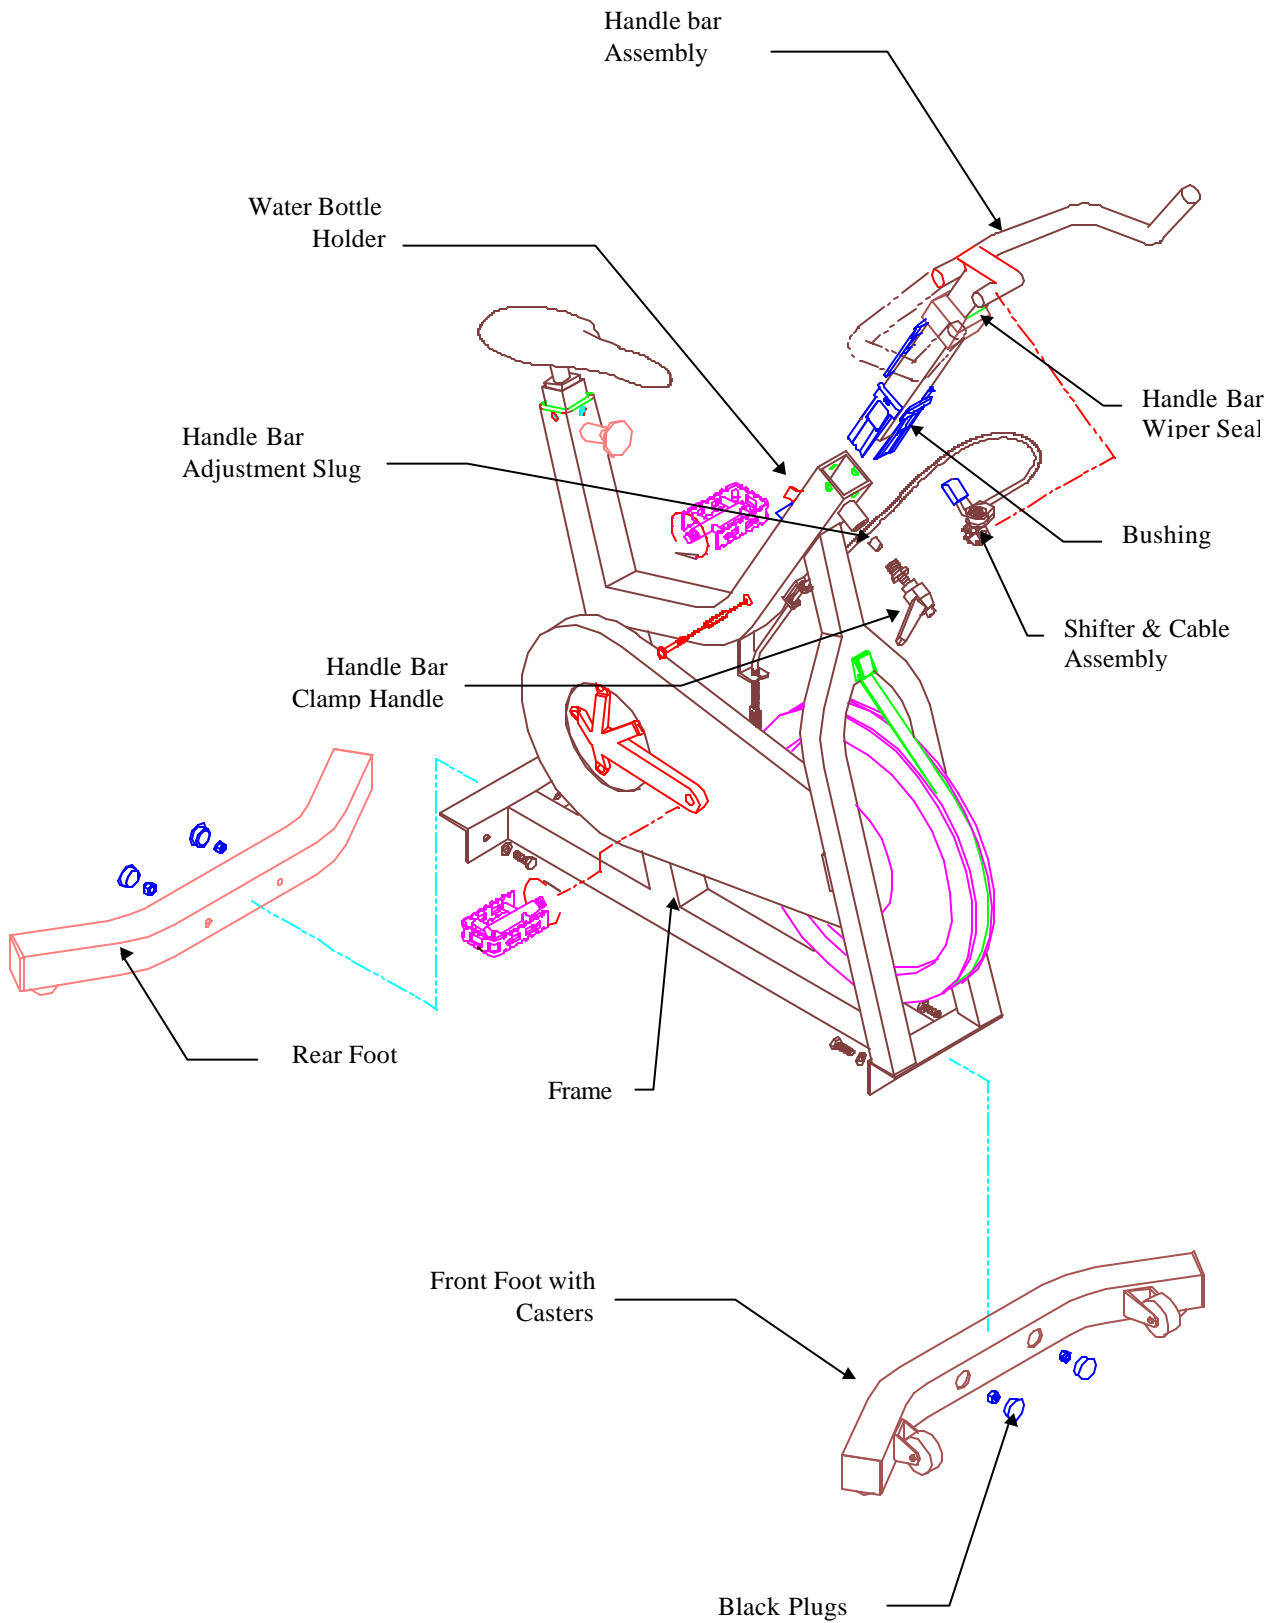

Figure 2
C. Feet (see Figure 2)
D. Pedals (see Figure 2)